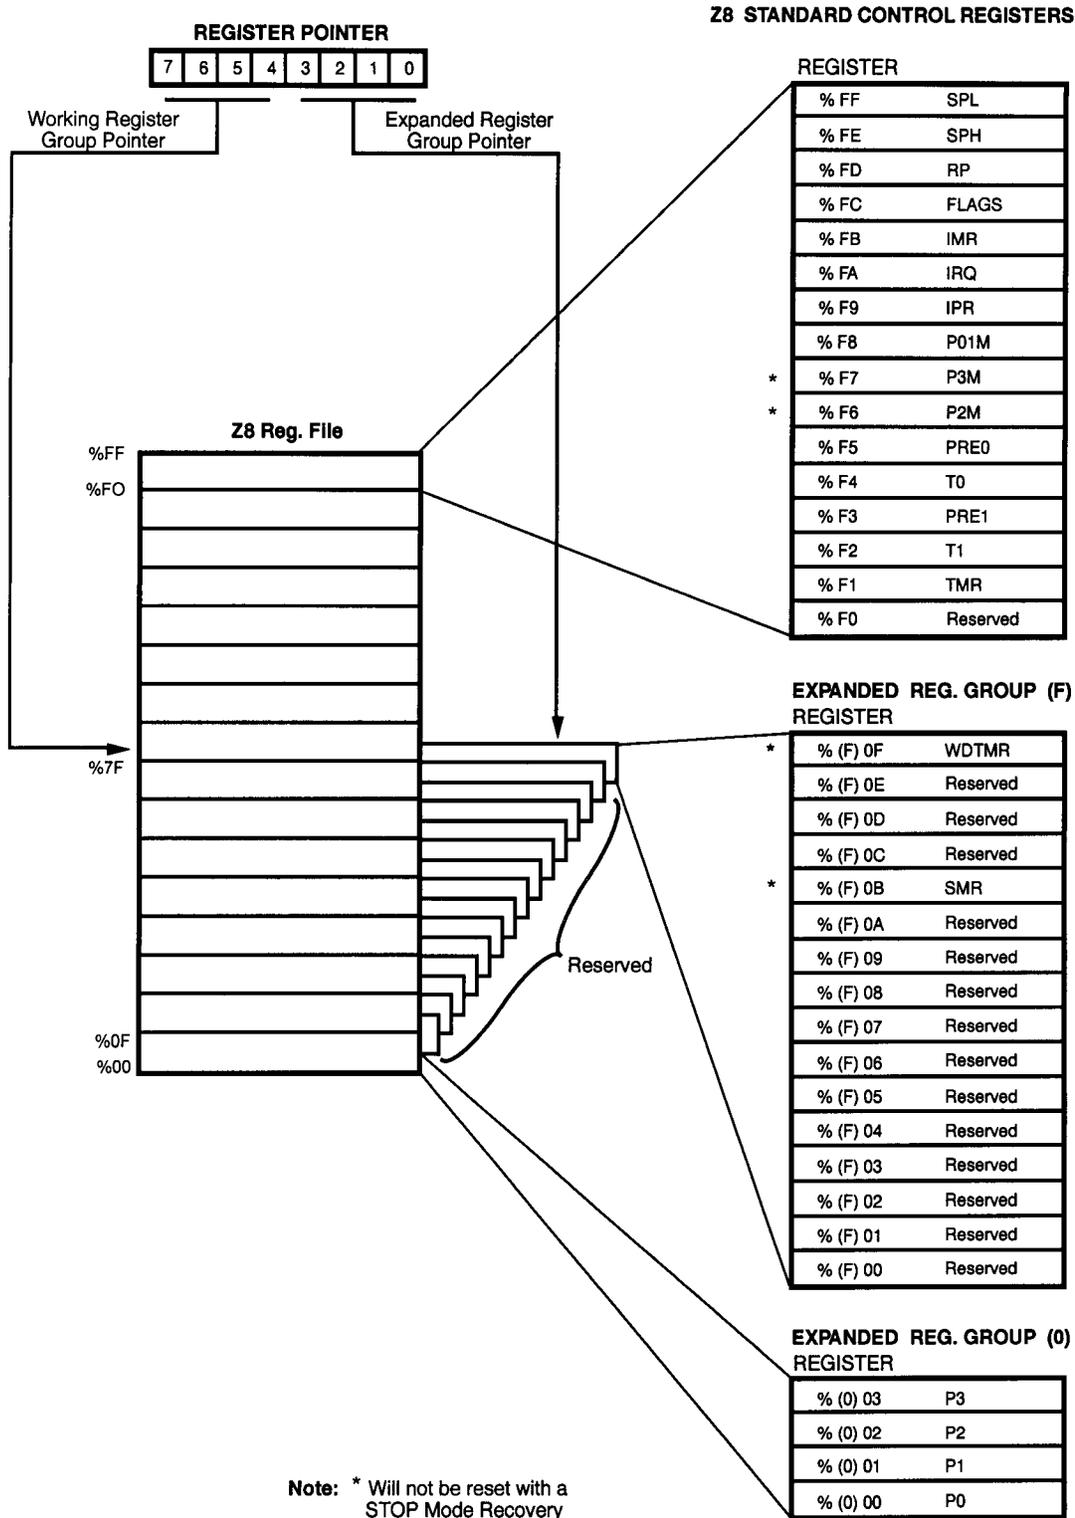

Figure 13. Expanded Register File Architecture
**Expanded Register File.** The register file has been expanded to allow for additional system control registers, and for mapping of additional peripheral devices along with I/O ports into the register address area. The Z8 register address space R0 through R15 has now been implemented as 16 groups of 16 registers per group (Figure 13). These register groups are known as the Expanded Register File (ERF). Bits 7-4 of the RP Register select the working register group. Bits 3-0 of the RP Register select the expanded register group (Figure 13). Two system configuration registers reside in the Expanded Register File at Bank F. The rest of the Expanded Register is not physically implemented and is open for future expansion